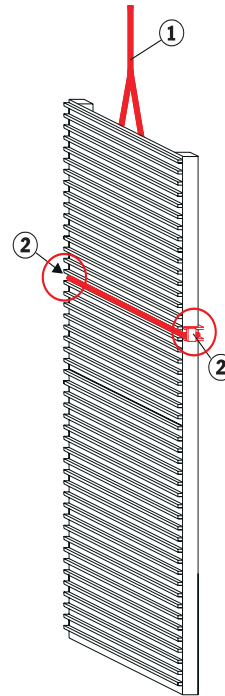

Fig. 14: Wrapping the cable around the side panel
- 1 Loop the cable (1) around the side part as shown (Fig. 14) at a height equal to  $\frac{2}{3}$  the height of the side part and tighten the cable so that it cannot slide down.